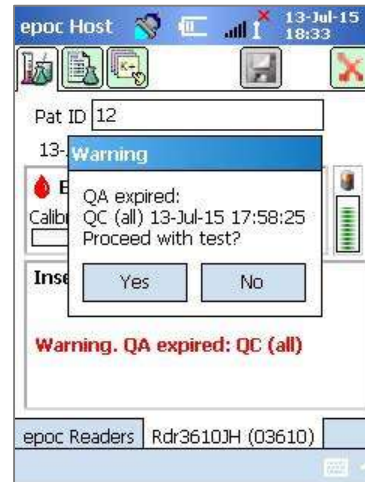

Fig. 44.
- When the user inserts a Test Card, a pop-up message will appear asking the user if they want to proceed with the test (Fig. 44).